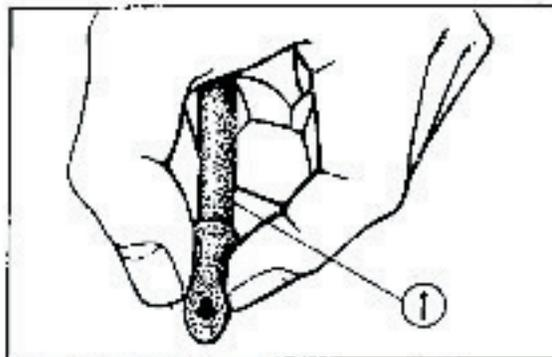

Fig. 2-14 ① Drain tube
5. Squeeze the end of the drain tube as shown in Fig. 2-14 and drain any oil or water that remains in the tube.